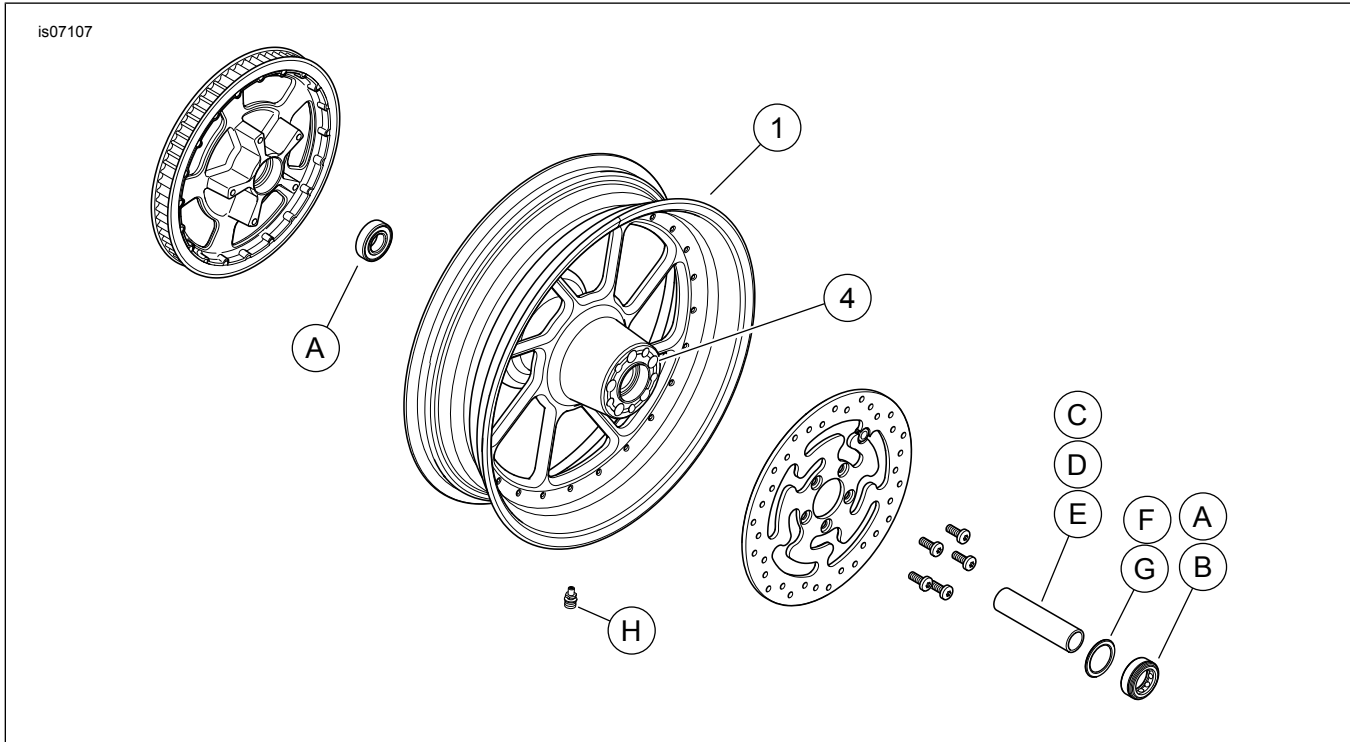

Figure 1. Service Parts: Rear Road Winder Wheels
See Figure 1 and Service Parts Tables.
- See Figure 1. Install valve stem assembly (H) on wheel. Refer to the service manual.